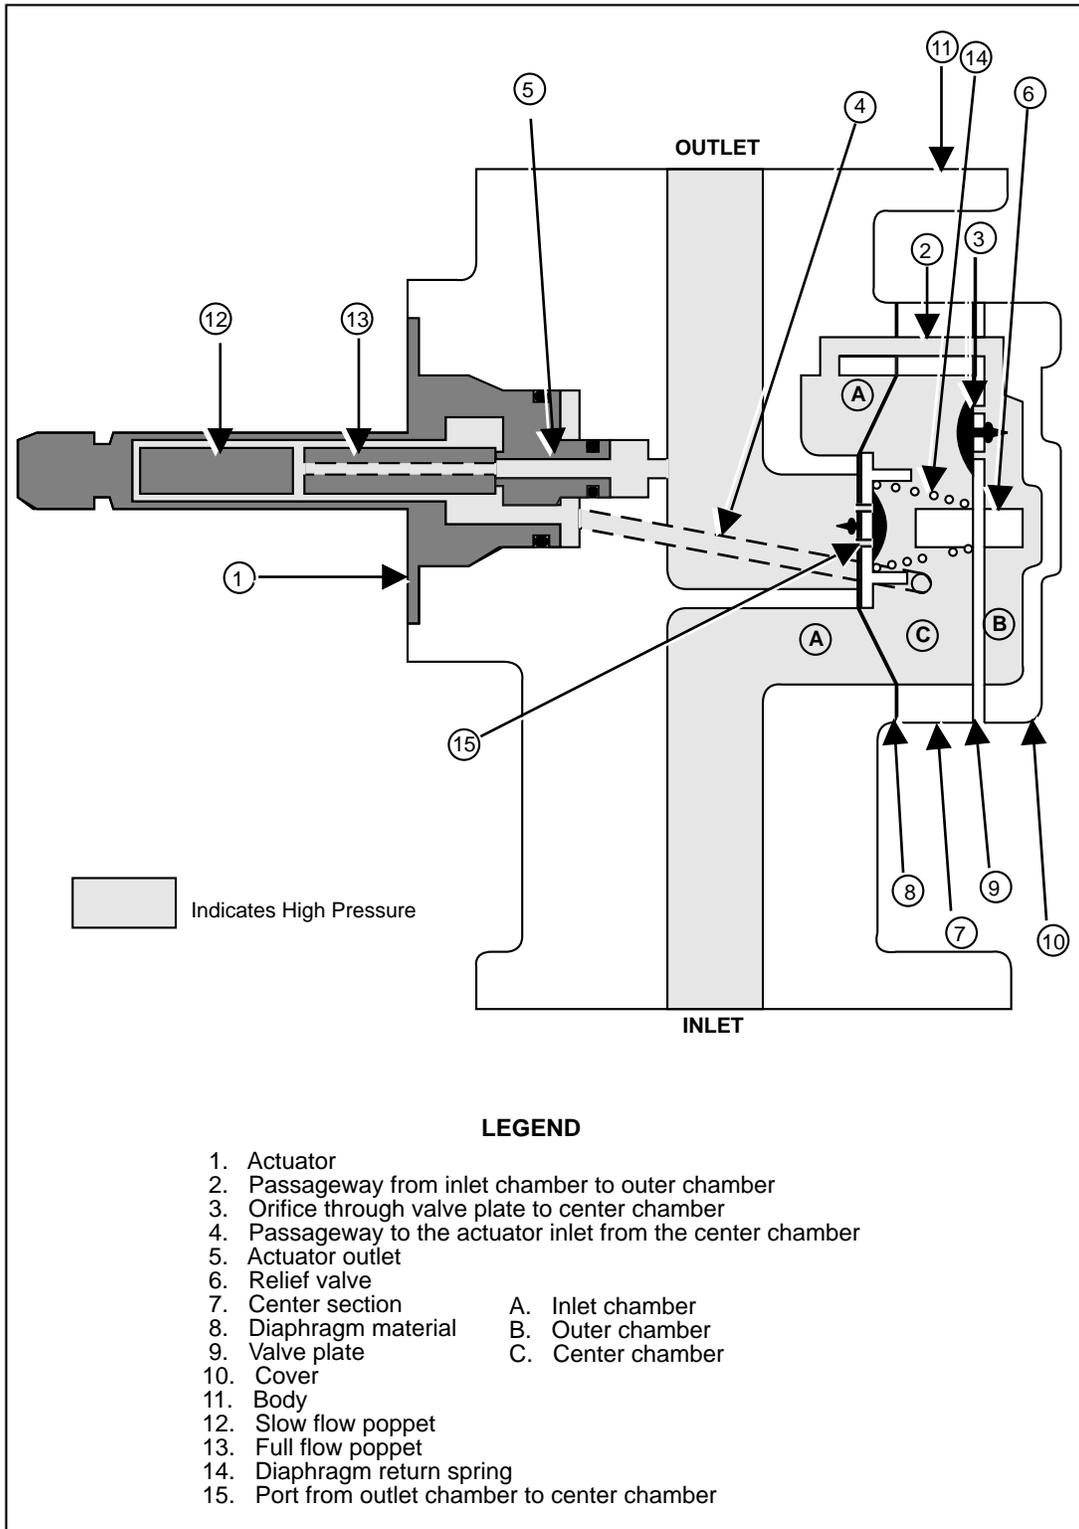

FIGURE 5-3. FLOW CONTROL VALVE "ON" SLOW FLOW
5.2.1.2. Flow Control Valve "On" Slow Flow (see Figure 5-3)